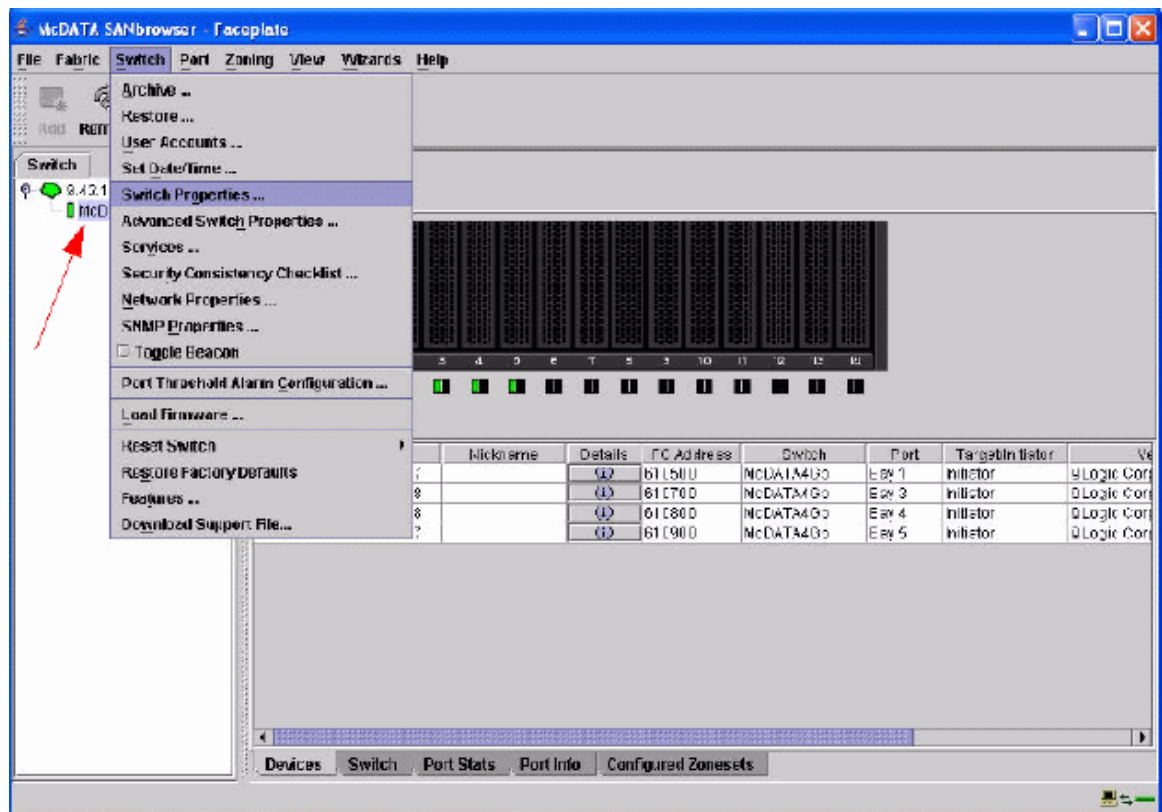

Figure 15: McData Switch properties setting.
- c. Click the Topology window in the left pane, click the drop-down tree and double-click the IP address. Next, select your switch (in our example, McDATA4Gb). Select Switch → Switch Properties...as shown in Figure 15.